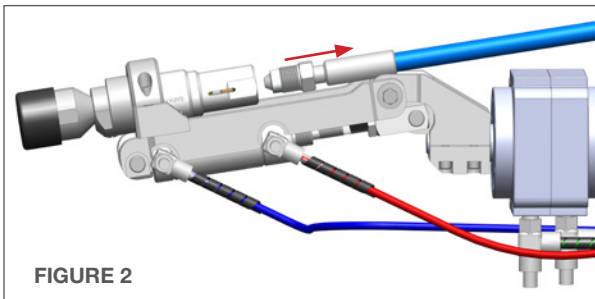

FIGURE 2
2. Disconnect the High Pressure Hose from the BC-20K tool and pull all the way out through the Rear Rail Stop. **(Figure 2)**